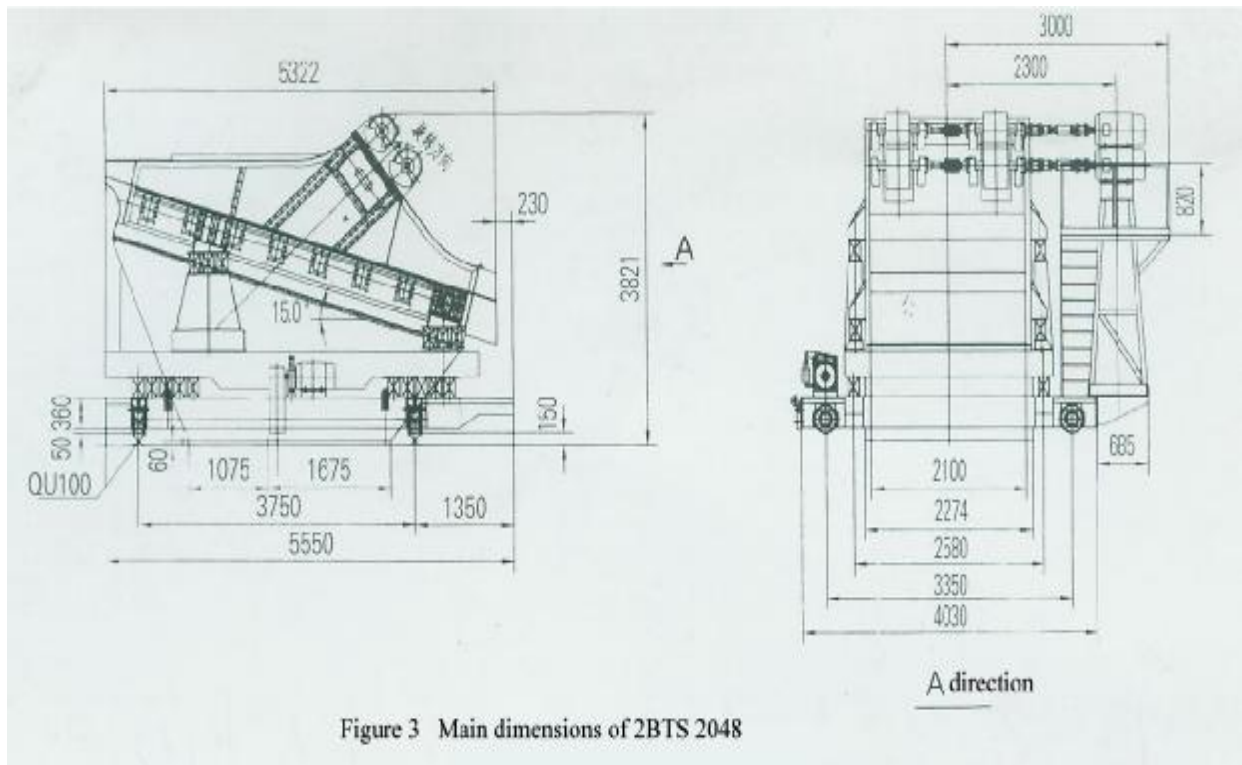

Figure 3 Main dimensions of 2BTS 2048
* * 2BTS 2048的主要尺寸见图3 Main dimensions of 2BTS 2048 shows in figure 3.